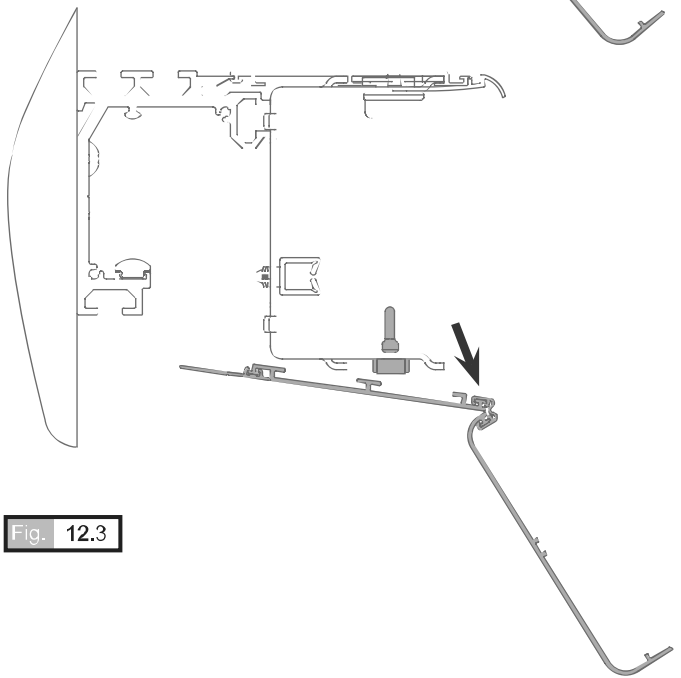

Fig. 12.3
- Remove the bottom cover and the front cover. **Fig. 12.3**